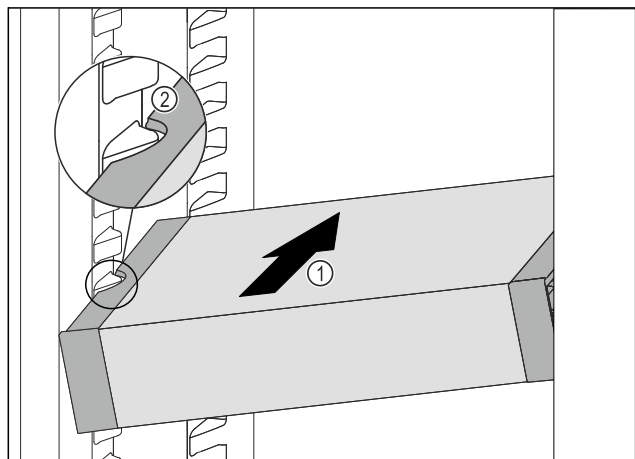

Fig. 107
- ▶ Insert the VarioSafe into the fridge section at an angle Fig. 107 (1) until the recesses in the side Fig. 107 (2) of the VarioSafe are at the level of the support rib in the fridge section.